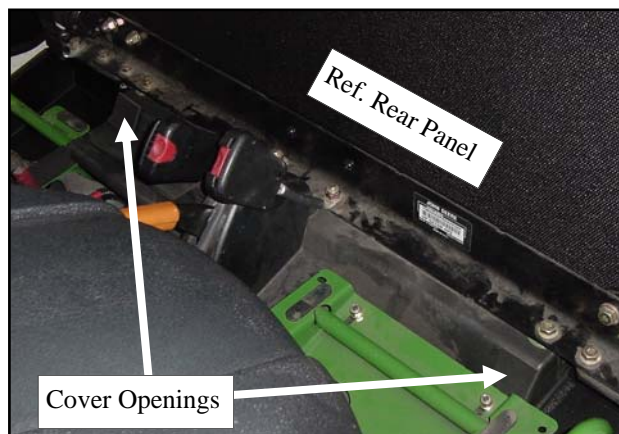

Fig. 9.1 (install seals over openings)
9.1 Remove the seat base or flip the seats forward. Clean the area around the two openings that are on either side in the black plastic behind the seat. Be sure that the area is dry and at room temperature and then install the two rectangular foam seals to cover the openings per fig 9.1.